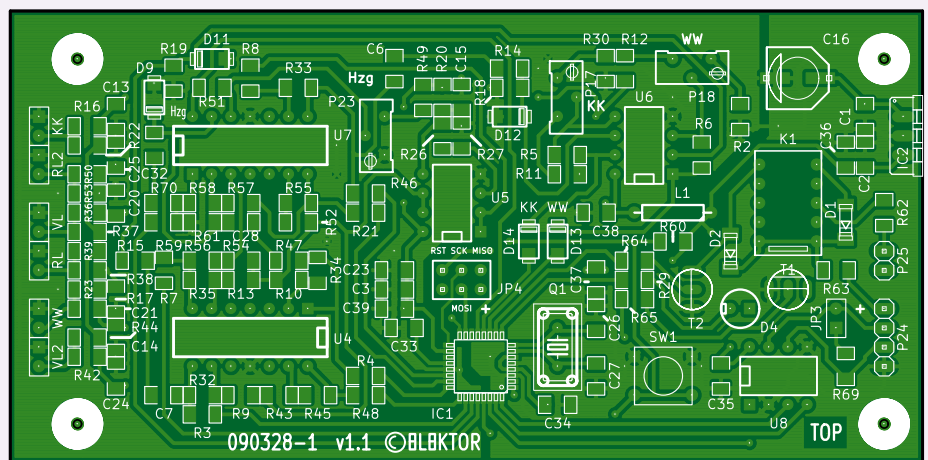

Figure 6. With a bit of practice, all of the components can be soldered by hand.
**Figure 6** shows the component layout (the PCB layout drawings can be downloaded from the Elektor website [1]). Fit and solder the components according to the usual rule of 'lowest profile first'. Soldering the microcontroller, which comes in a TQFP package, should also be possible with the aid of surgi-